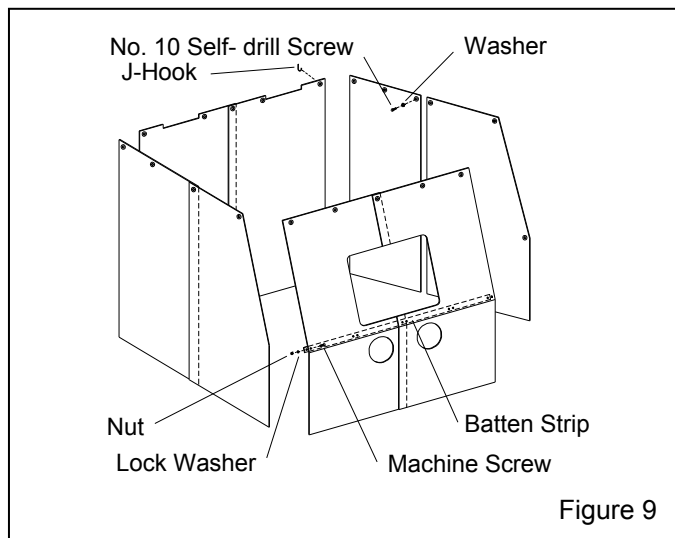

Figure 9
3.2 Curtain Installation, Figure 9
3.2.1 Match the curtains to the corresponding wall and door as shown in Figure 9. Hook the curtains to the J-Hooks welded along the top of the front, back, and side walls.
3.2.3 For front walls, place the batten strip over the curtain, and clamp it in position on the front slope above the break as shown in Figure 9. Match drill .187" (3/16") diameter holes through the rubber and cabinet front at each batten hole. To install the batten insert #10-24 x 1" round head machine screws through the cabinet front, curtain and batten. Install lock washers and nuts from inside the cabinet and tighten securely.